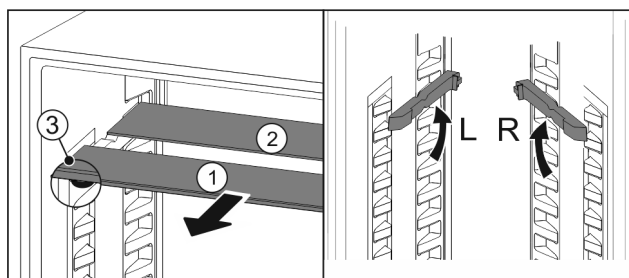

Fig. 112
- Pull the glass panels out Fig. 112 (1) from the front, one at a time.
- The glass panel Fig. 112 (1) and trim strip are at the front.
- The stops Fig. 112 (3) point down.